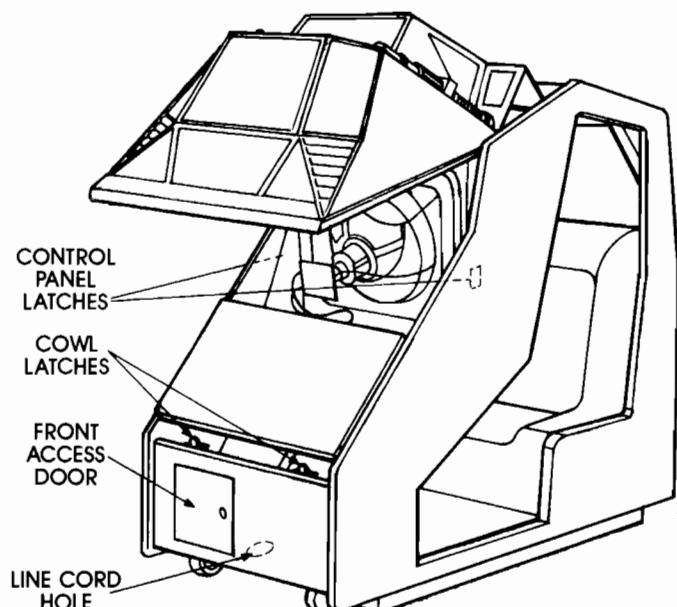

Figure 1. Cockpit model with hood raised.
**COCKPIT GAMES:** See Figure 1. **(1)** Unlock the access door on the front of the game. **(2)** Now extend your arm to the left and right inside the door. Undo the two hood trunk latches. **(3)** Raise the hood. **(4)** Loosen the two access screws at the sides of the circuit board panel. **(5)** Raise the panel and inspect circuitry.